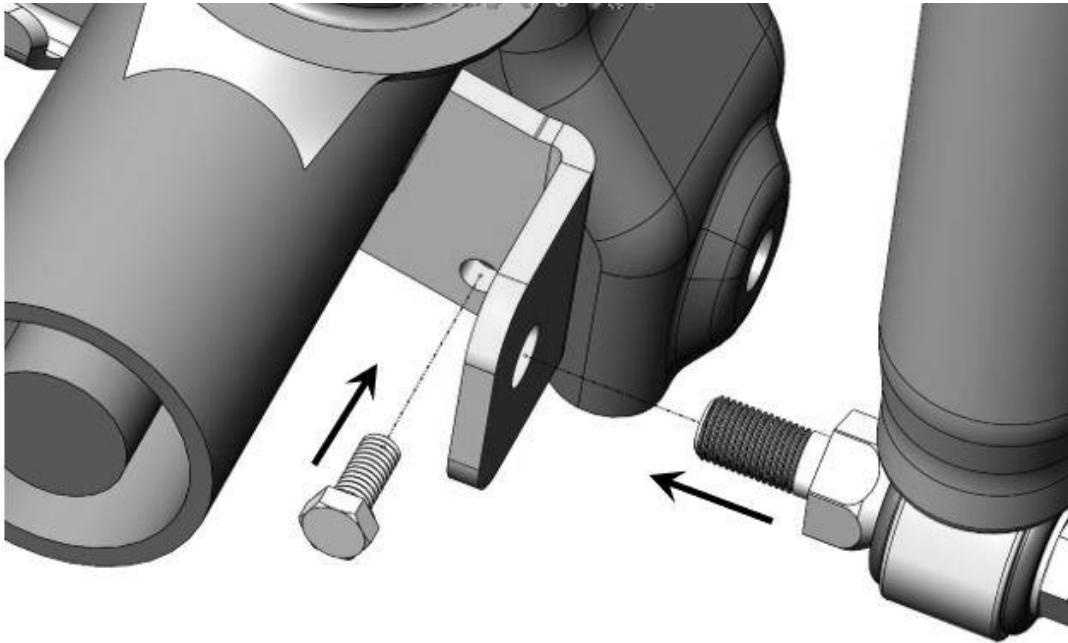

Figure 10 – Hardware Installation and Shock Installation
14. With the 5/16" hole drilled, install the provided 5/16"-18 x .750" Grade 8 Hex Head Bolt through the hole and secure with the provided 5/16"-18 Flange nut. Tighten 5/16" Bolt to 18 ft/lb. Tighten the Lower Control Arm Bolt at this time to 75 ft/lb as well. Also install the lower shock mount into the Shock Relocation Bracket. Tighten the lower shock mount nut to 75 ft/lb. Refer to Figure 10 on the next page for reference.